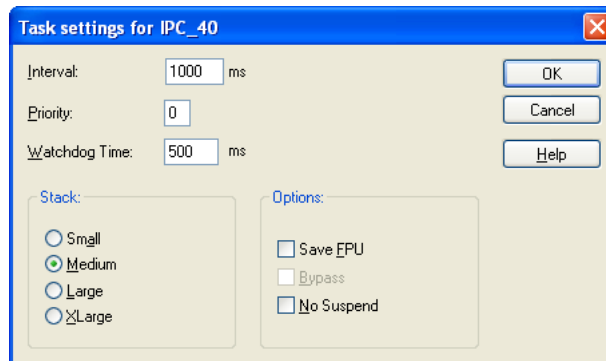

Figure 7-11 Changing the setting
- Change the setting, e.g., to 1000 ms (see Figure 7-11 on page 7-11).